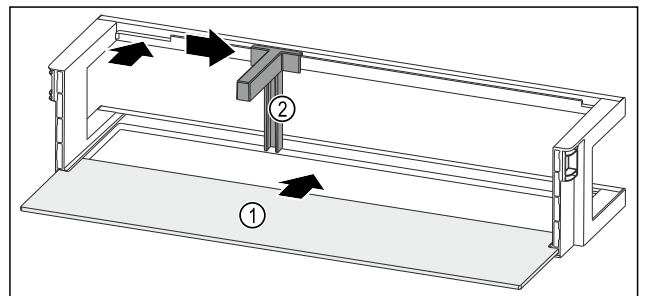

Fig. 120 Door rack with shelf
- ▶ Push the shelf Fig. 120 (1) into the side recesses.
- ▶ Insert the bottle holder Fig. 120 (2) in the recess.
- ▶ Push the bottle holder Fig. 120 (2) to the desired position to the side.